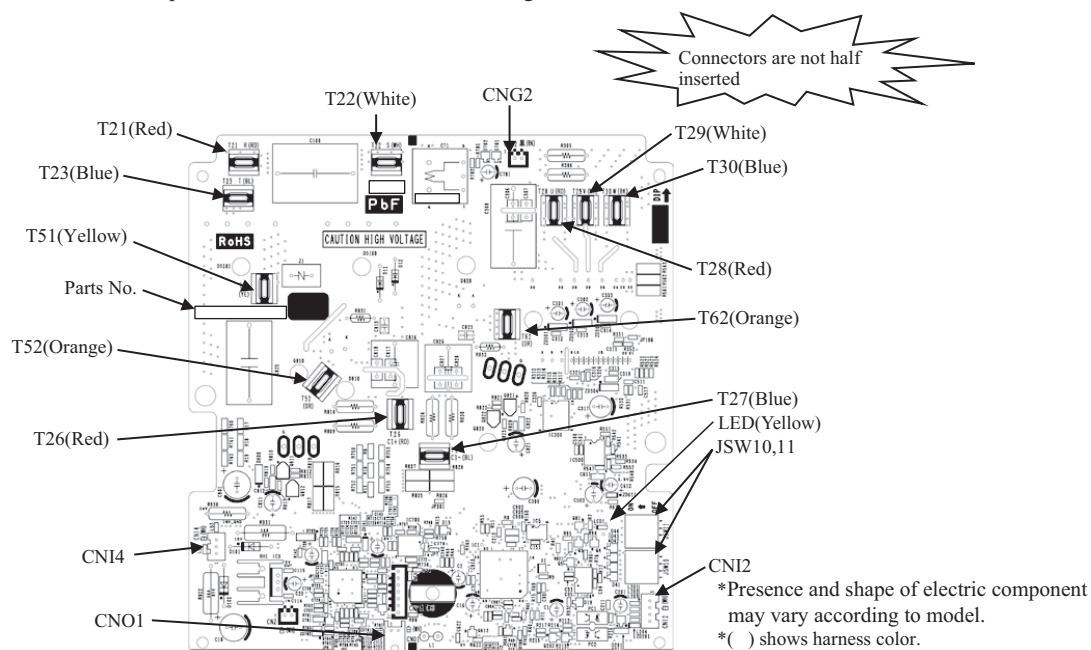

Fig.1 Parts arrangement view of inverter PCB
- 2) Disconnect the connectors and faston terminals from the inverter PCB as shown in Fig. 1.